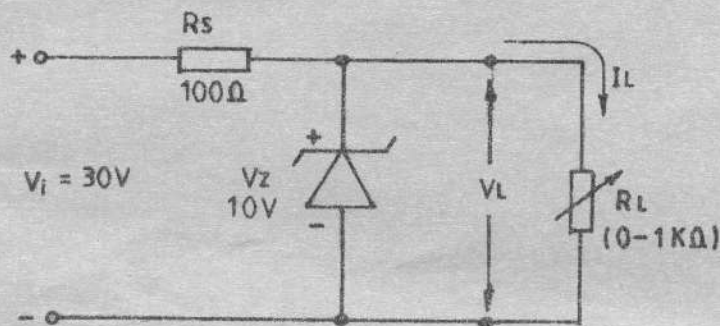

Fig. 5
- (c) Figure 5 shows a circuit diagram of a shunt regulator using a Zener diode. Determine the: